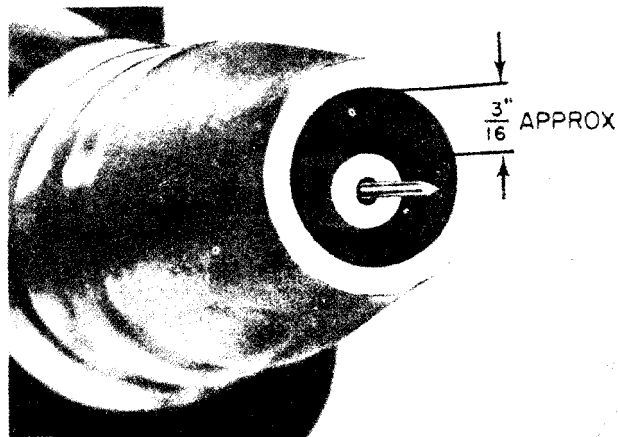

Figure 18. Nozzle-to-Contact Tube Distance
h. Screw nozzle onto barrel and tighten. The nozzle-to-contact-tube distance should be approximately 3/16-inch (Fig. 18), if all fittings have been properly installed.